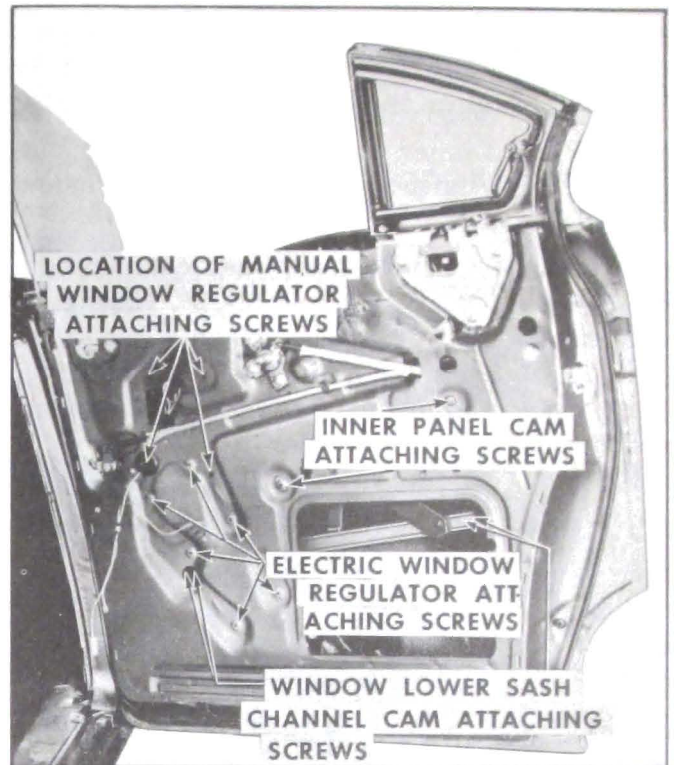

Figure 13-225—Rear Door Window Adjustments
3. Remove window lower sash channel cam attaching screws, shown in Figure 13-225. Dis-
5. Remove inner panel cam attaching screws, shown in Figure 13-225; disengage cam from regulator arm and remove from door.
6. Remove window regulator attaching screws (See Figure 13-225) and remove regulator assembly from door through large access hole.